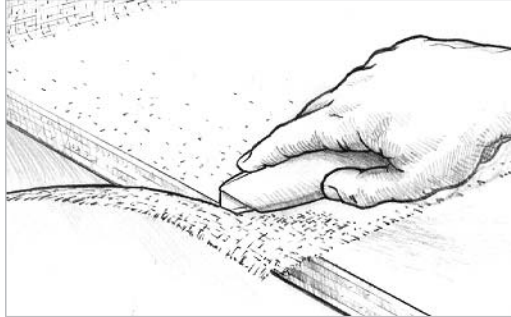

Figure 9-19 Trim excess cloth after the epoxy has begun to gel using a sharp utility knife.
8. Trim the excess and overlapped cloth after the epoxy has begun to gel, using a *sharp* utility knife (*Figure 9-19*). Trim overlapped cloth, if desired, as follows: